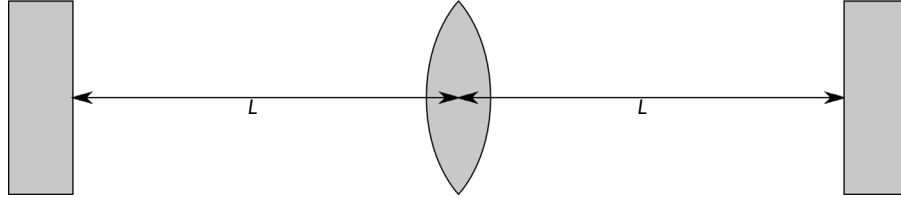

Figure 1: Optical layout of a laser cavity with a thin lens (not drawn to scale) at the center.
The laser cavity consists of two flat end mirrors and a thin biconvex spherical lens with focal length $f = 0.5$ m. The mirrors are positioned at a distance L (SI unit: m) to either side of the lens as shown in Figure 1. A ray is released from the center of one of the mirrors, at a very small angle to the optical axis. The ray is traced for a predefined total computation time, T_0 (SI unit: s), which is sufficient for it to be reflected a large number of times, at least several hundred reflections for the largest value of L .
- 5 Click the  **Zoom Extents** button in the **Graphics** toolbar. Compare the resulting geometry to Figure 1.